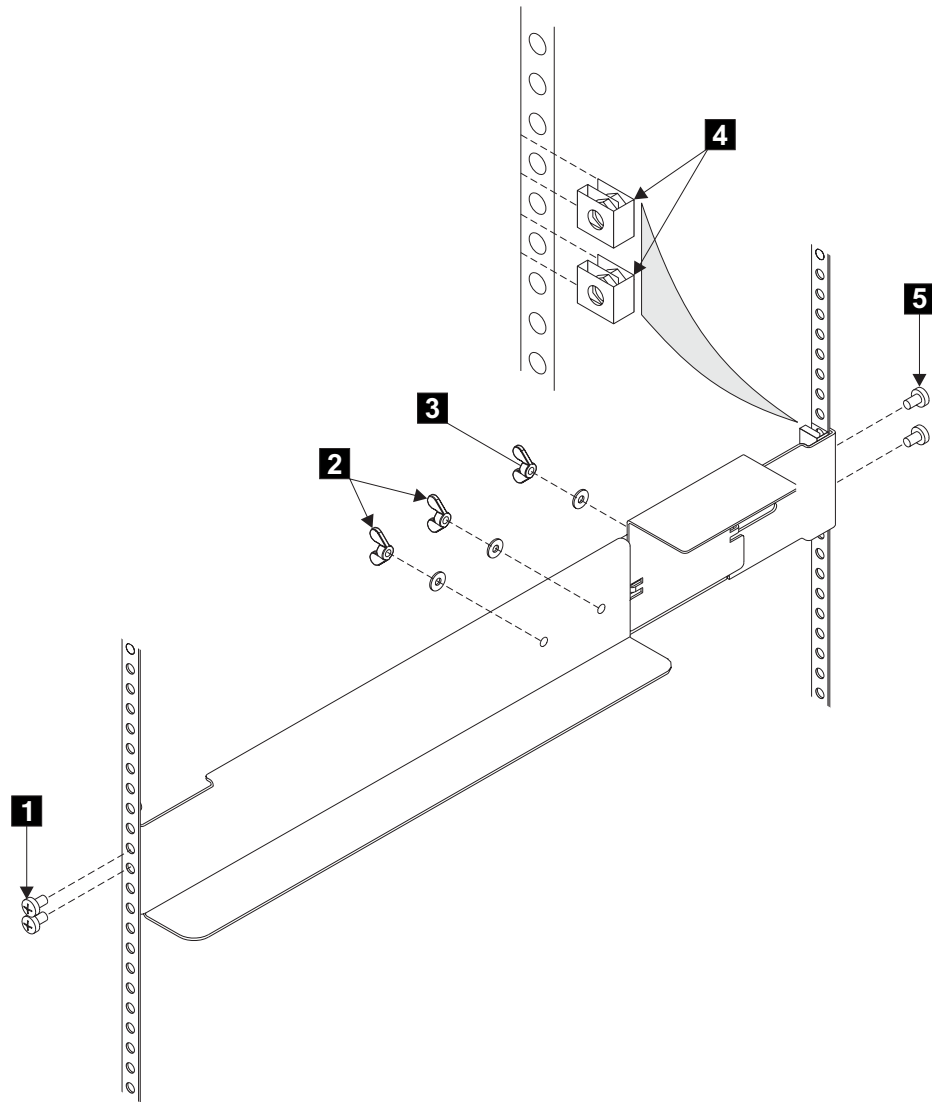

Figure 18. Installing support rails for a uninterruptible power supply into the rack
3. At the back of the rack, observe the Electrical Industries Association (EIA) positions, and determine where you are going to install the uninterruptible power supply (see Figure 18). An uninterruptible power supply must always be installed into the lowest available position in the rack. The only device that can be below a uninterruptible power supply is another uninterruptible power supply.